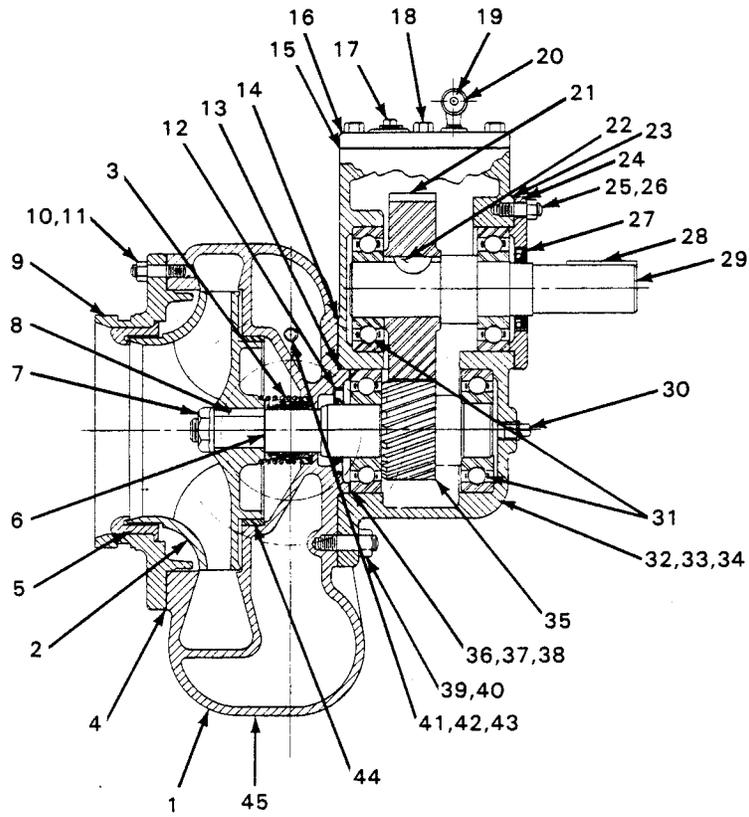

Figure 1. Pump Model 06D1-GAR
This pump requires little service due to its rugged, minimum-maintenance design. If it becomes necessary to inspect or replace components, however, follow these instructions, which are keyed to the sectional view (see figure 1) and the accompanying parts list.
Reinstall the drive shaft bearing in the gearbox housing. Reinstall the drive gear key, and position the drive gear so that it engages the pinion shaft gear. Install the drive shaft and bearing. Inspect the oil seal (27) and replace as necessary. Reinstall the oil seal in the bearing cap, positioning the lip as shown in figure 1, replace the bearing cap gasket (23), and secure the bearing cap to the gearbox housing.
Replace the bearing shims. After final reassembly, shaft end play should fall between .005 and .012 inches; add or remove bearing shims to reach this recommended tolerance. Inspect the oil seal, and replace as necessary. Reinstall the oil seal in the volute housing, positioning the lip as shown in figure 1.